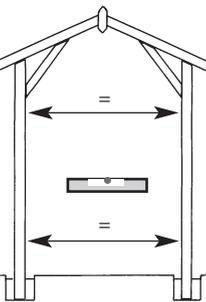

Fig 5.
8. Take one of the struts and fix it at a position equally spaced either side of the roof and side section joint as Fig.5.